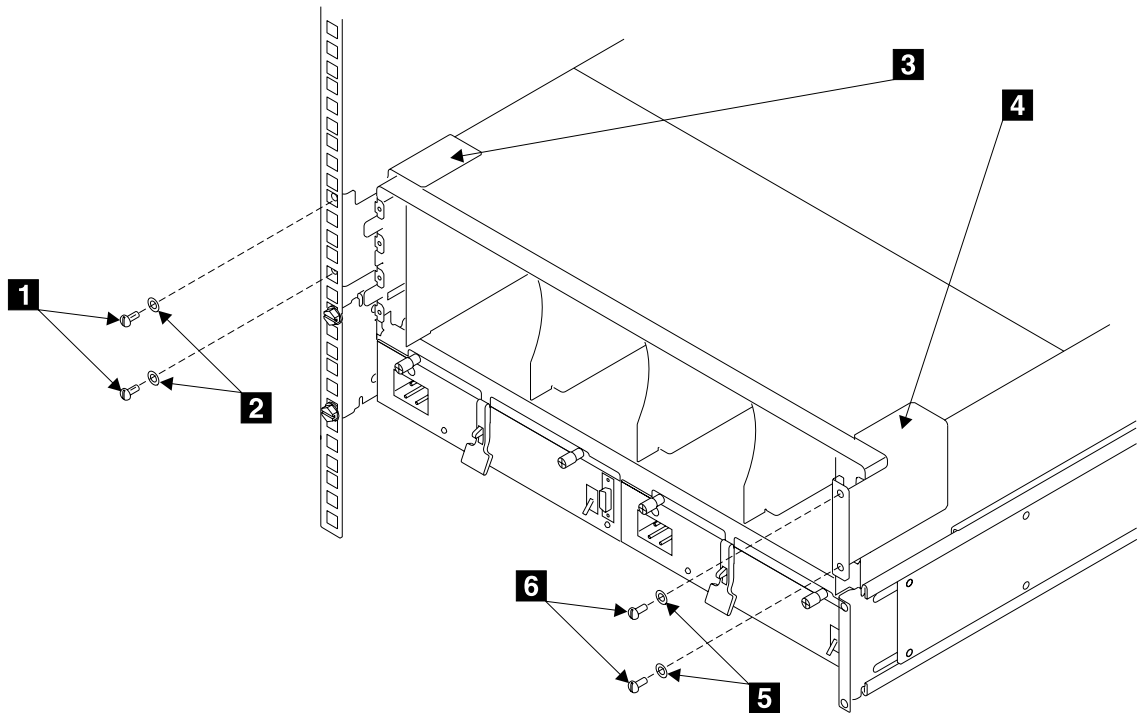

Figure 132. Removing the Back Brackets
Refer to Figure 132.
- a. Refer to Figure 132 on page 229.